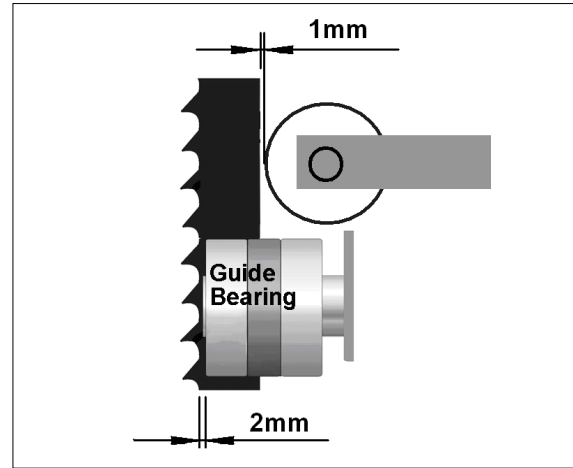

Fig 41
Position the guide assembly forward/ backward so that the teeth keep a distance of approximately 2mm to the guide rollers (Fig 41).
Adjust the back guide roller so that the distance to the saw blade is 1mm (Fig 41) .
Adjust the back guide roller with the adjust screw (P) so that the distance to the saw blade is 1mm (Fig 41).